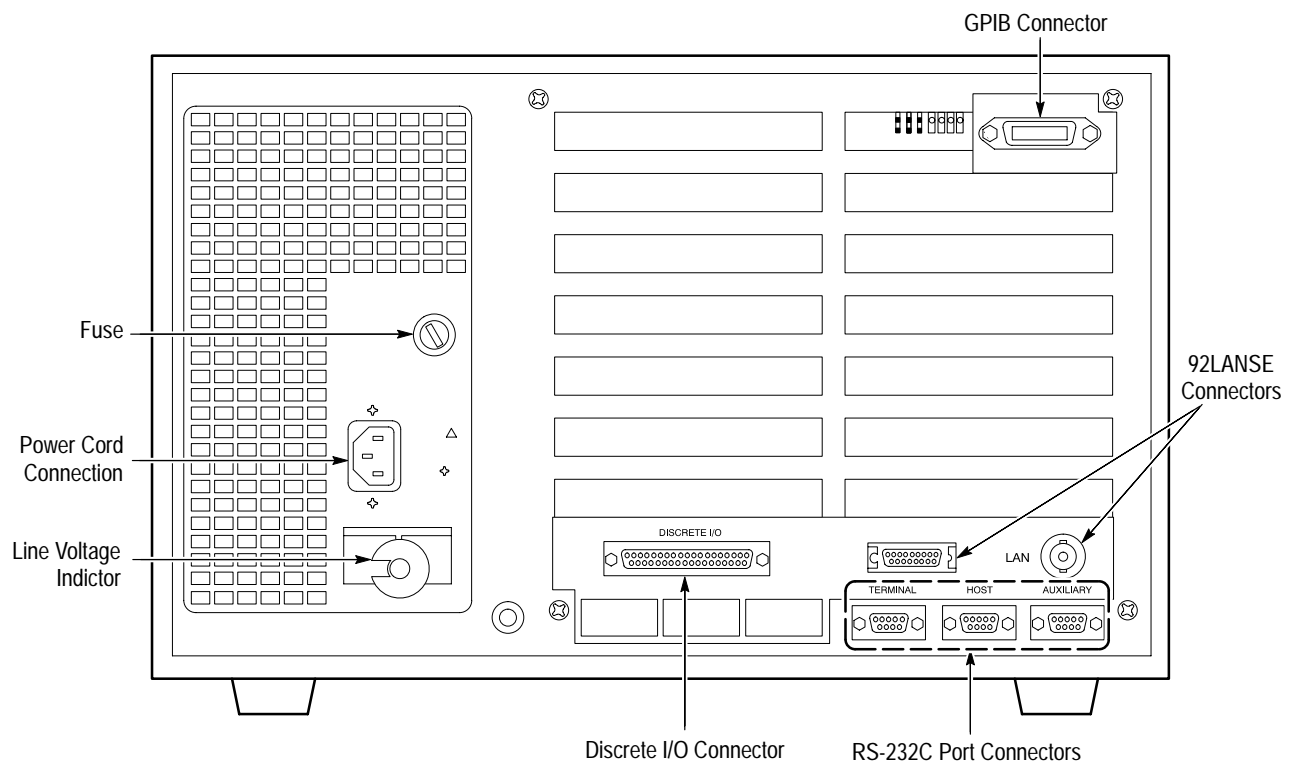

Figure 2-4: Location of DAS 9221 Back Panel Fuse and Line Voltage Indicator Knob (DAS 9219/9220 Look Similar)
8. Remove the fuse from the back panel (see Figure 2-4) and replace the mainframe fuse as follows: